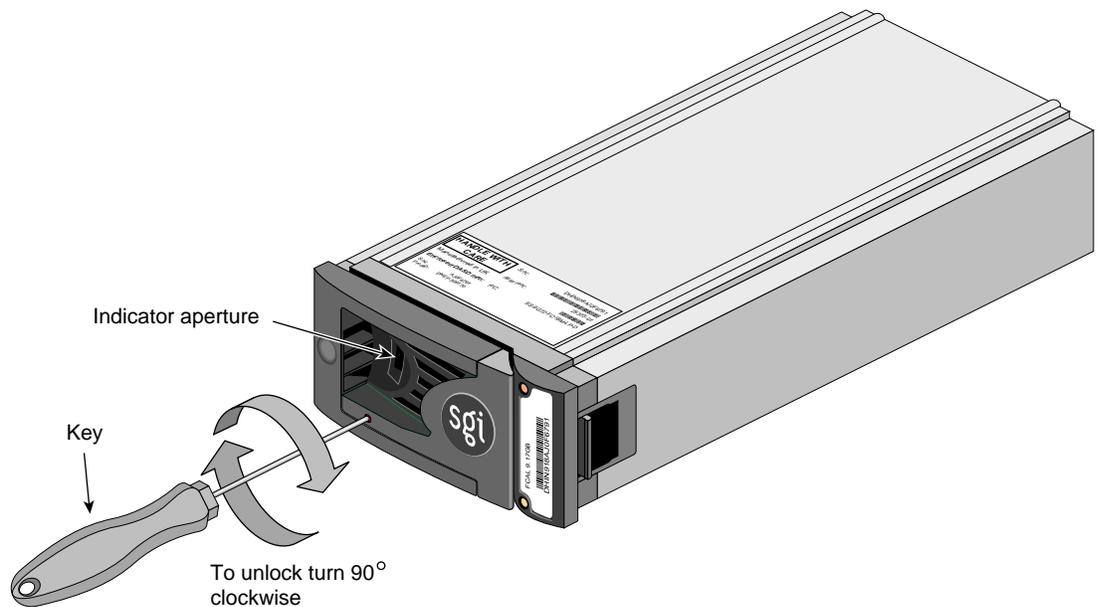

Figure 8-14 Unlocking the Disk Drive Module (Disengaging the Antitamper Lock)
Drives are shipped with the locks set in the unlocked position. However, if a drive is locked, insert the key (included with the disk drive) into the socket in the lower part of the handle trim and turn it 90 degrees clockwise until the indicator visible in the center aperture of the handle shows black. See Figure 8-14.
- Carefully insert the lock key provided into the cutout in the handle trim, as shown in Figure 8-14.
- Rotate the key 90 degrees clockwise until the indicator in the handle shows black.